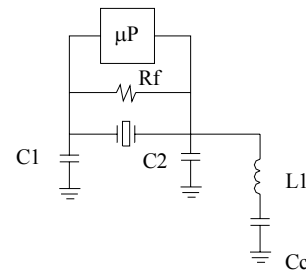

Figure 11
- The  $L_1C_c$  and  $C_2$  components form a parallel resonant circuit at a frequency about half-way between the fundamental and third-overtone frequency. This condition makes the circuit capacitive at the third-overtone frequency, which favors the oscillation at the desired overtone mode. See figure 11.